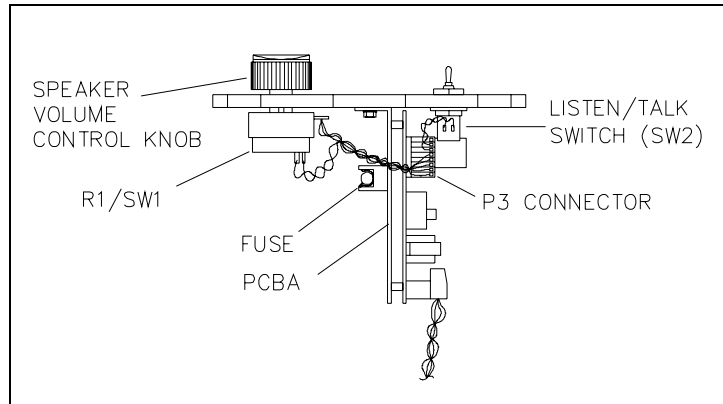
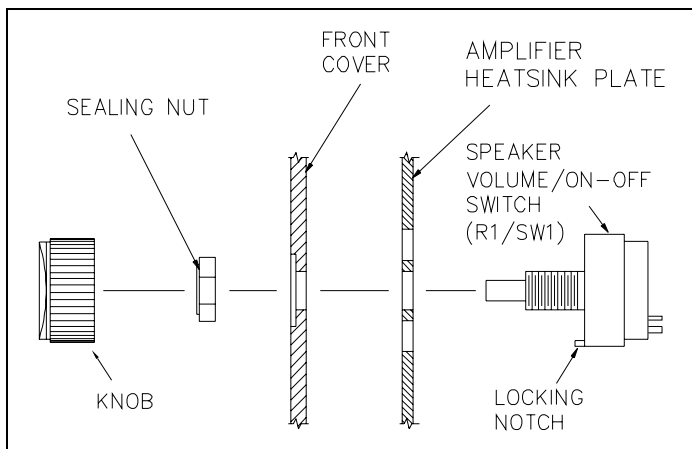

Figure 1. Location of Controls
Figure 2. Speaker Volume/On-off Switch Assembly
3. Insert the new speaker volume/on-off switch (R1/SW1) through the heatsink plate and through the front cover. Ensure that the associated anti-rotation pin is properly inserted into the amplifier heatsink plate's locking notch and the attached wires are positioned towards the fuse holder. Refer to Figure 1 and Figure 2.